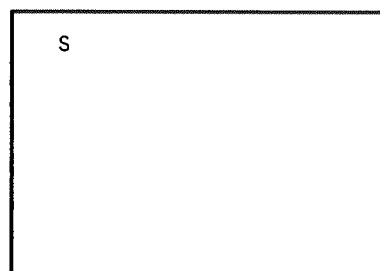

Fig. 1
(1) HOW TO ENTER THE SERVICE MENU
- ① Press **MENU** key and **CONTRAST** key simultaneously.
- ② The letter "S" appears at the upper left of the screen.(Fig.1)
- ③ Press **MENU** key and **PHASE** key simultaneously.